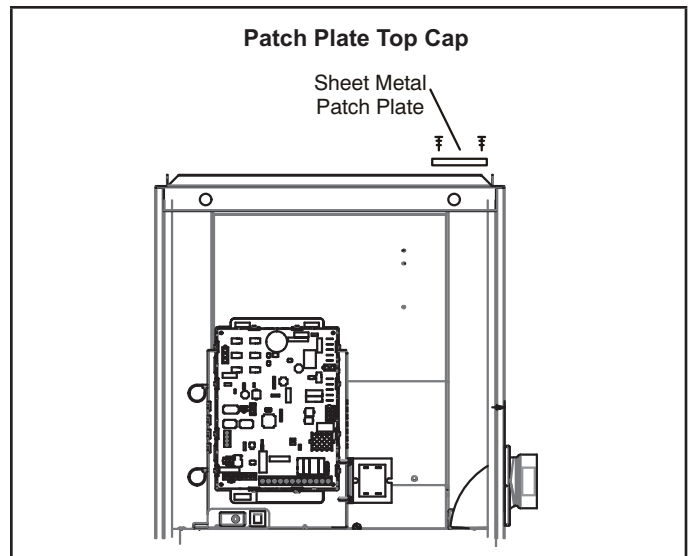

FIGURE 21
- 8 - Re-use the patch plate to cover the hole in the top cap. See "FIGURE 21". Remove the 2 screws which secure the top cap to the furnace on the right side and re-install securing the right edge of the patch plate and the right side of the top cap to the furnace. Use 2 self-drilling sheet metal screws (provided) to finish securing the left edge of the patch plate on the left side.